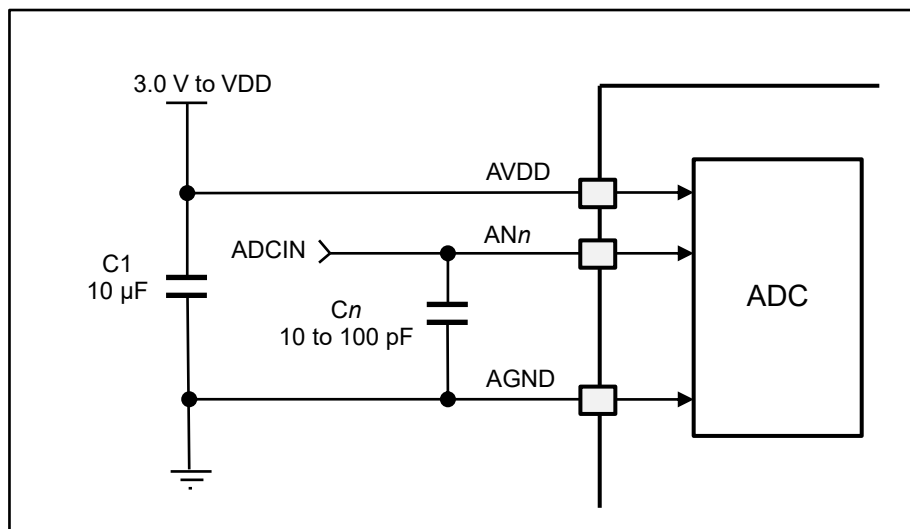

Figure 13.5. Example of ADC circuit
5. Note about noise : In order to protect circuit from surge voltage or abnormal voltage in AVREF or analog input pins, make a protection circuit between AVDD and AGND like figure 13.5. Bypass condensers connected to AVDD and AVREF and filter condenser connected to analog input pin should be connected to AGND.